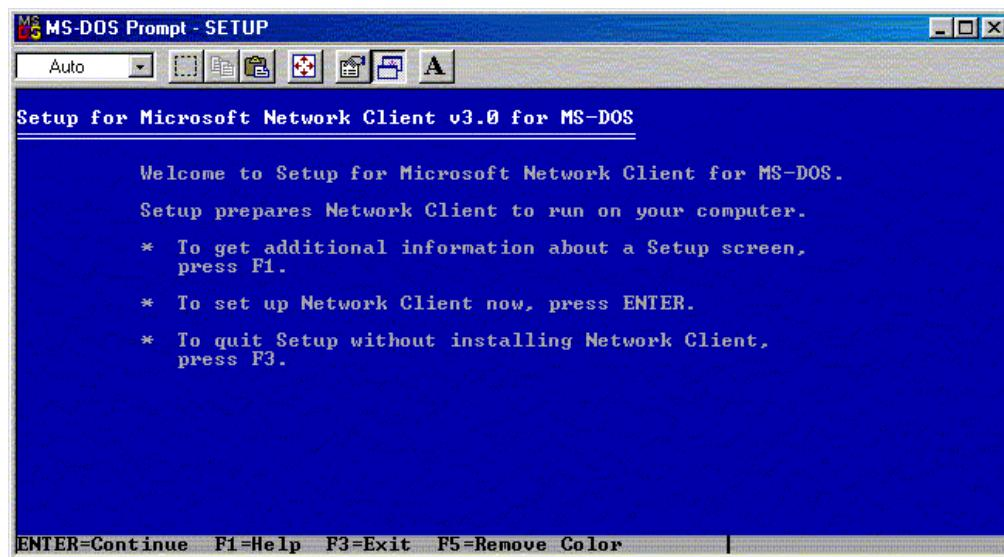

Figure A-6: Initial Network Client 3.0 installation screen
3. Change to the diskette drive and launch the setup file from the diskette drive by entering *SETUP* at the DOS prompt. A screen similar to Figure A-6 is displayed.